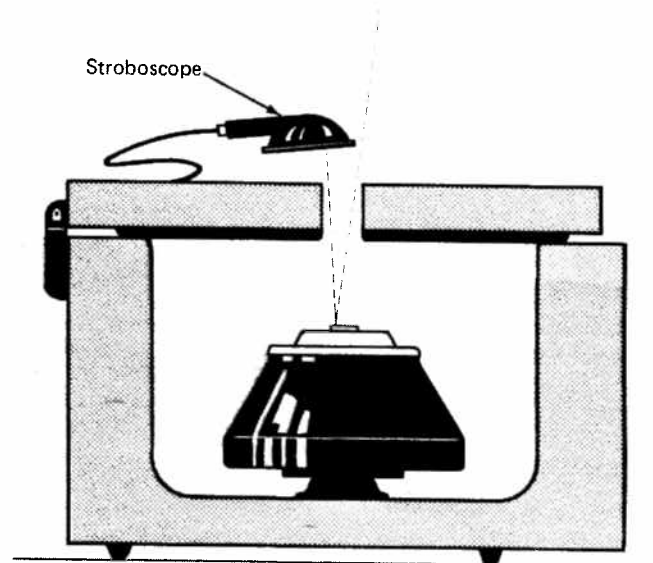

Figure 20. RPM Meter Calibration
7. When the rotor reaches the desired speed, take a stroboscopic reading through the hole in the centrifuge door.³ See Figure 20.